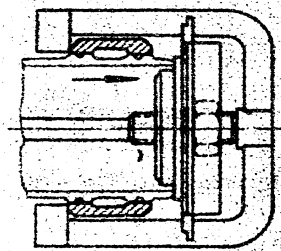

Fig. 9
a) Removal of the cylinder clip by means of a special strap (Fig. 9):